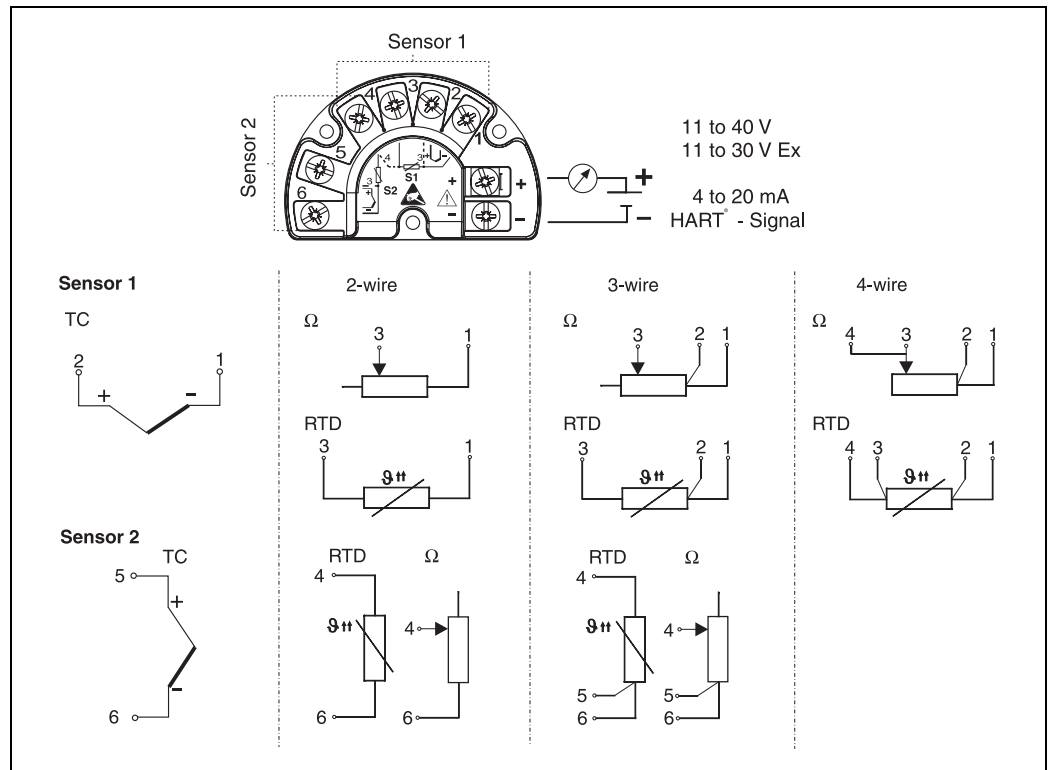

Fig. 5: Wiring the field transmitter
3. Connect the leads as shown in Fig. 5.
For sensor connection terminal layout please see Fig. 5. On two sensor inputs the following connection combinations are possible:
| Have the cables been correctly connected? Compare with the connection schematic on the terminals or see Fig. 5.    | See connection schematic on the housing |
The setup and measured value read out of the measuring device is done using the HART® protocol. The digital communication is done using the 4 to 20 mA current output HART® (see Figs. 5 and 6). There are a number of possible setup methods available to the user: